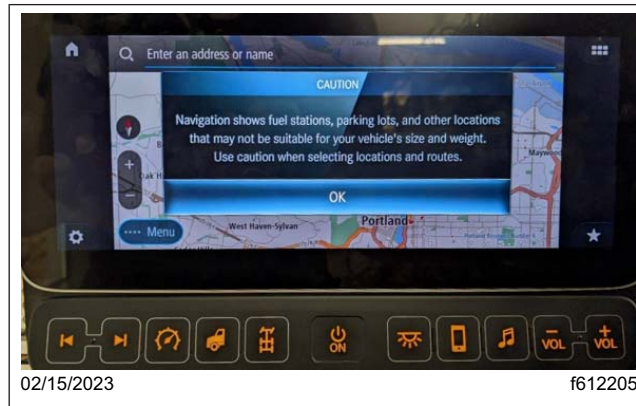
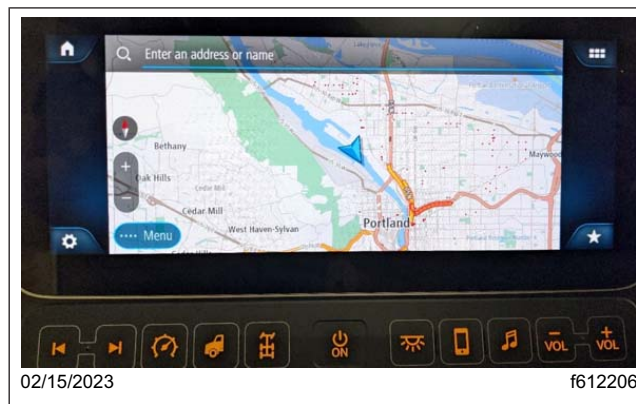

Fig. 29, Navigation Caution
Fig. 30, Navigation Map
- 22.2 Select the navigation icon shown in **Fig. 28** to start the route navigation. A caution is displayed as shown in **Fig. 29**; select 'OK.'
Figure 30 shows the navigation map indicating that the navigation system is functioning.
- 22.3 If the screens shown in **Fig. 28**, **Fig. 29**, and **Fig. 30** are displayed, then the TomTom installation is successful.